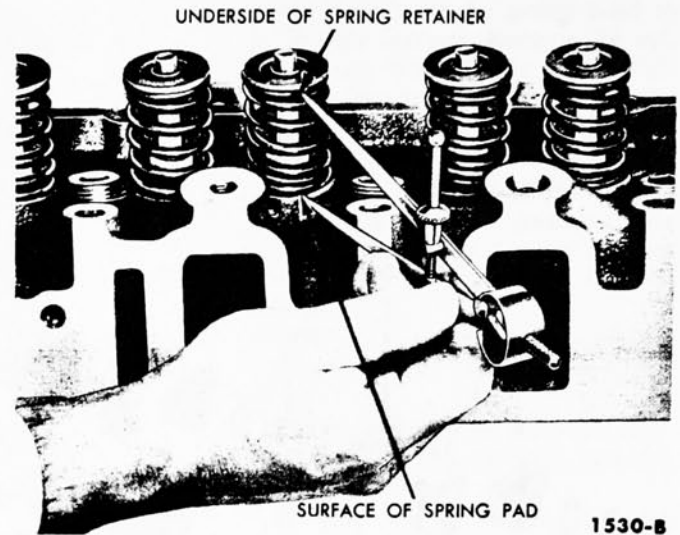

FIG. 26—Valve Spring Assembled Height
4. Measure the assembled height of the valve spring from the surface of the cylinder head spring pad to the underside of the spring retainer with dividers (Fig. 26). Check the dividers against a scale. If the assem-